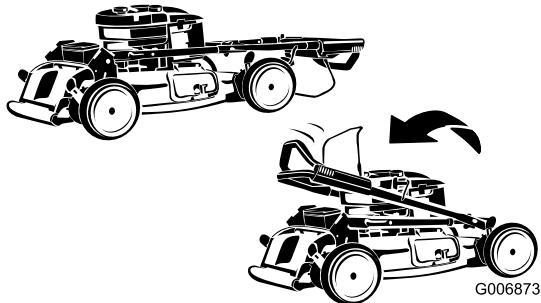

Figure 39
3. Fold the upper handle forward as shown in Figure 39.